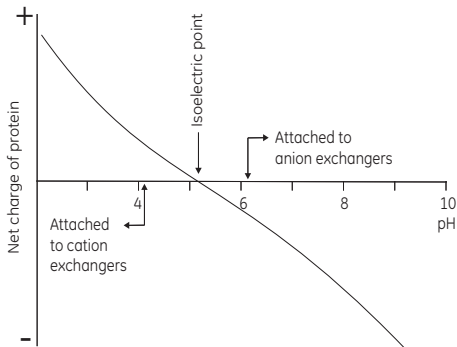

Fig 3. The net charge of a protein as a function of pH.
Ion exchange chromatography is based on adsorption and reversible binding of charged sample molecules to oppositely charged groups attached to an insoluble matrix. The pH value at which a biomolecule carries no net charge is called the isoelectric point (pI). When exposed to a pH below its pI, the biomolecule will carry a positive charge and will bind to a cation exchanger (SP). At pH's above its pI the protein will carry a negative charge and will bind to an anion exchanger (Q). If the sample components are most stable below their pI's, a cation exchanger should be used. If they are most stable above their pI's, an anion exchanger is used. If stability is high over a wide pH range on both sides of pI, either type of ion exchanger can be used, see Figure 3.